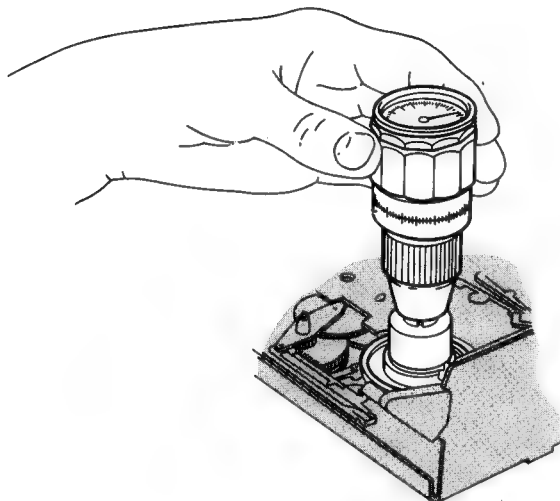

Fig. 2-4
- The torque in a clockwise direction should be between 1.3 and 1.6 mNM (13.0 and 16.0 gFcm). Do not let the weight of the torque meter bear on the turntable (Fig. 2-4).
- Using the torque meter on the left hand supply reel turntable Fig. 2-4 rotate the flywheel of the combi motor clockwise until the reading is stable, it should be between 2.8 and 3.8 Ncm (280 and 380 gFcm).